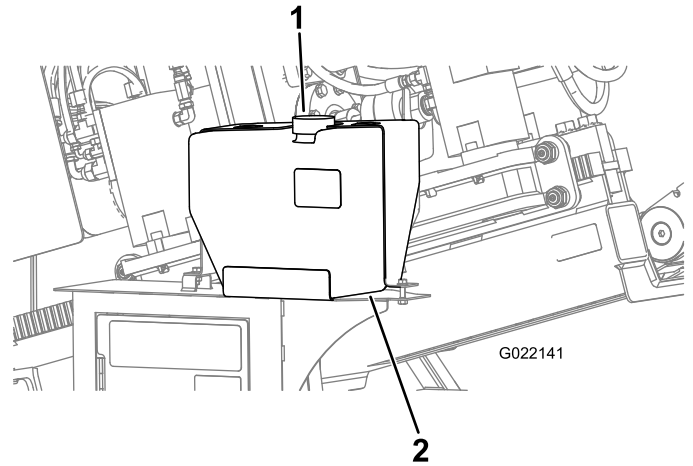

Figure 151
- D. Remove the cap from the antifreeze tank for the drilling-fluid pump (Figure 151).
- E. Ensure that the tank is full of antifreeze (Figure 151).
- C. Add antifreeze to the tank as needed (Figure 151).
5. Install the cap onto the antifreeze tank (Figure 151).